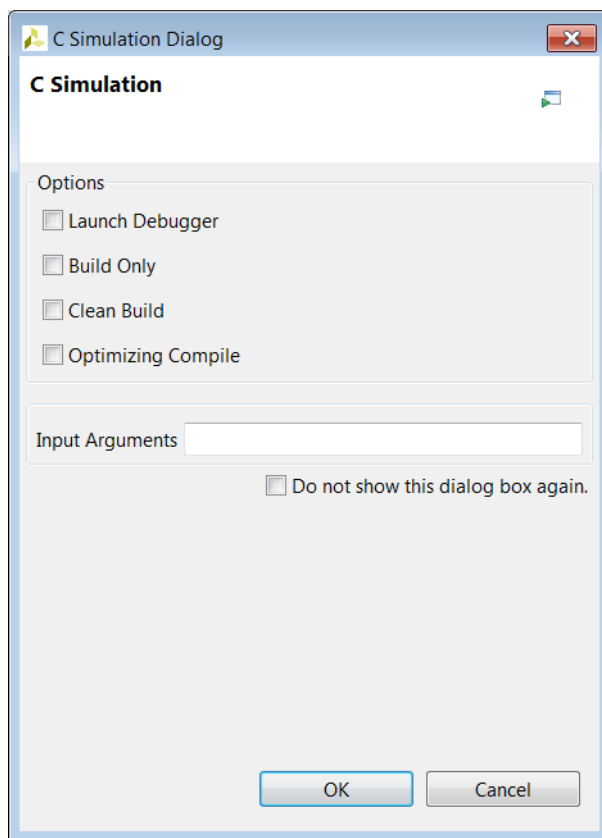

Figure 3-4: Run C Simulation Dialog Box
2. Click the **Run C Simulation** toolbar button to open the C Simulation Dialog box, shown in Figure 3-4.